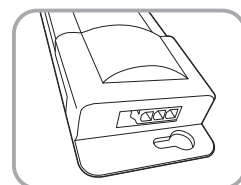

FIGURE 5
7. Attach the quick-connect power cord with the plug and 3-pin quick connector to the LED light fixture closest to the outlet. **See Figure 4 and Figure 5.**